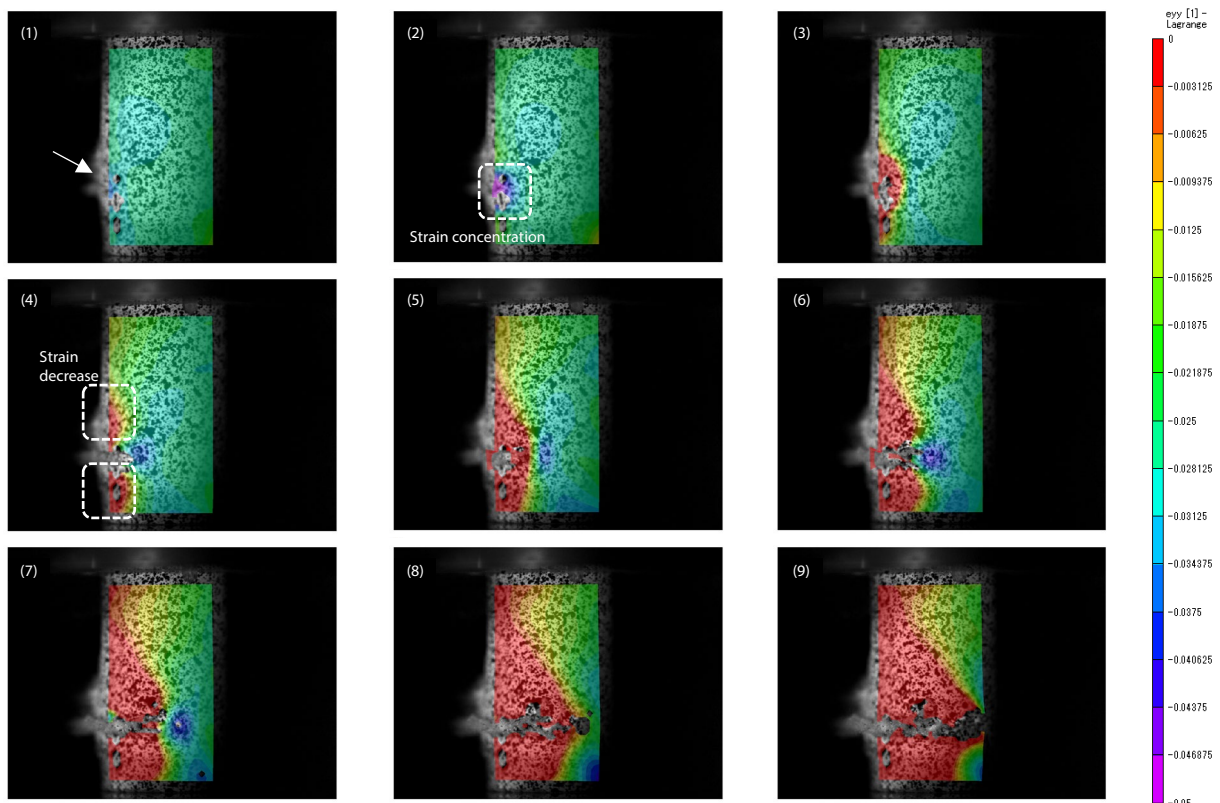

Fig. 4 Condition of Fracture Observation (Time Interval Between Images: 400 ns)
Fig. 4 shows the results of the 3D-DIC analysis. From image (1) in Fig. 4, the origin of fracture is on left rear side, and the crack propagates around the circumference in images (2) to (9). Compressive strain concentrates in the unfractured area in front of the crack, as shown in purple. Since the crack propagates around the circumference, the purple area gradually moves to the right. On the other hand, because compressive strain cannot be maintained after crack propagation, strain decreases, as shown in red, and with crack propagation, the decrease in strain also spreads to the upper right.